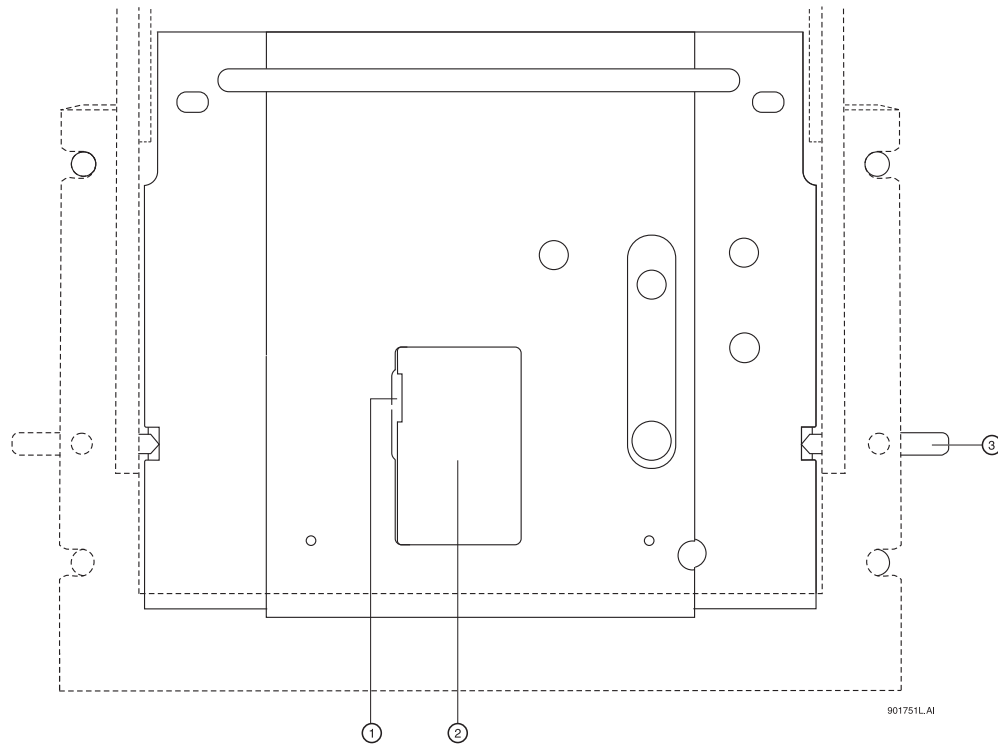

Figure 4.21 Removing Filter Wheel Access Cover
8. Remove the filter wheel access cover and rotate the filter wheel until the desired filter is visible. Refer to Figure 4.21.